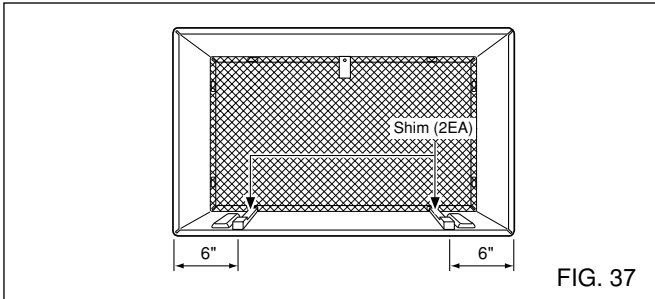

FIG. 37
- 7** To achieve rearward slope for unit draining, remove the backing from the  $1\frac{13}{16}$ " shim strips and attach them as shown below in Fig. 37. The higher portion of shim is to be placed in front of the rib on the base of wall sleeve.